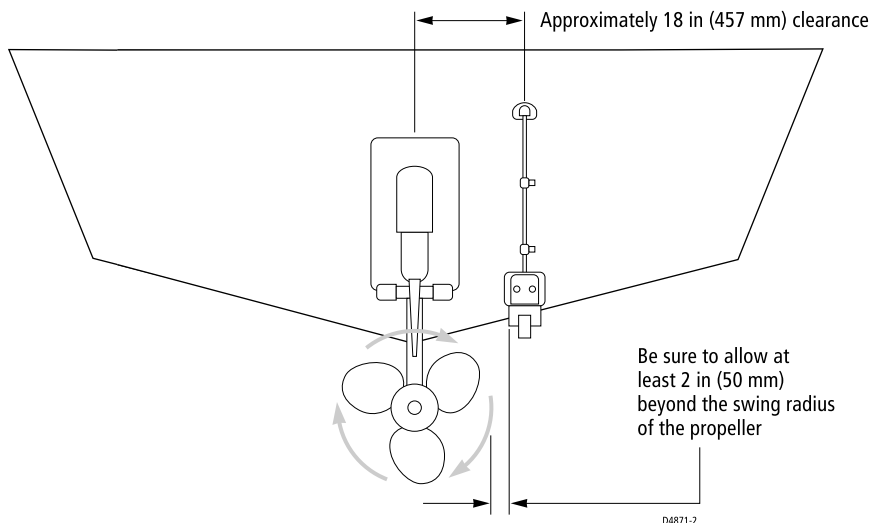

Figure 1-1: Transom Mount Transducer Location
- **Single drive boat** - Refer to *Figure 1-1*. If your boat has one propeller (outboard or inboard), mount the transducer about 18" (455 mm) to the side of the boat's centerline. To reduce any interference caused by air bubbles, choose the side on the downstroke of the propeller (usually the starboard side).